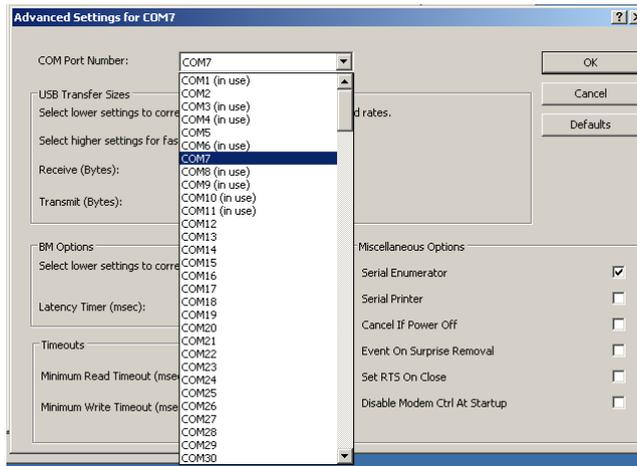

Fig. 3.7 Resetting COM port number
3. If the port assigned is not in the range between 1 and 8, the port number needs to be reassigned. Right-click on “USB serial port” in Fig. 3.6 and select “Property”, go to “Port setting” tab, select the “Details” button. As shown in Fig. 3.7, select a port number between 1 and 8 that is not already assigned to others - see Fig. 3.6. If a used port number is selected, a warning dialog will pop up. Click on the OK button. Then follow Step 2. above.